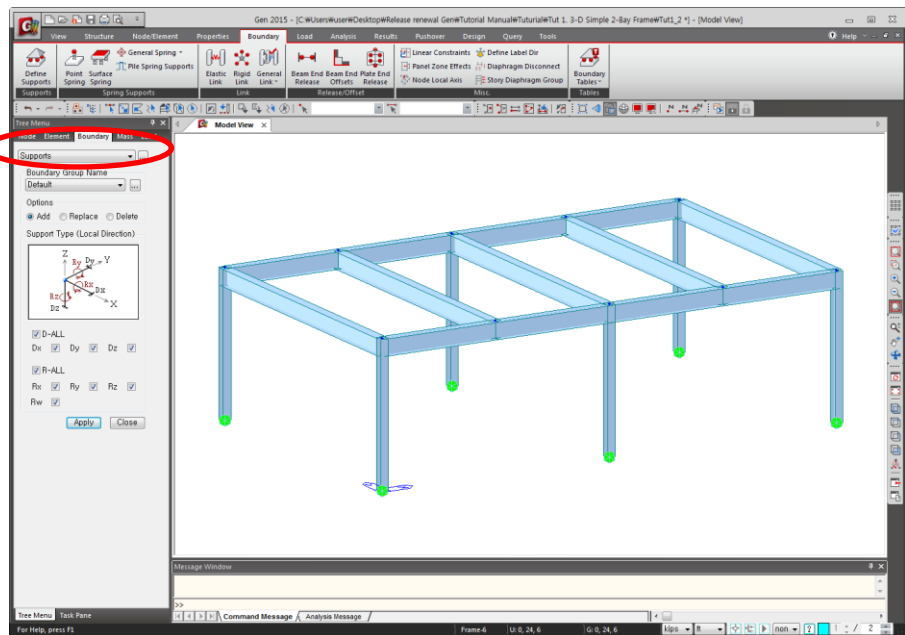

Figure 1.12 Data Entry for Structure Supports
1. Select **Boundary** in the **Model Entity** tab (Fig.1.12–①).
Select **Load** in **Model Entity** tab for loading (Fig.1.12–①).
1. Select **Load** from the **Model Entity** tab (Fig.1.12–①).